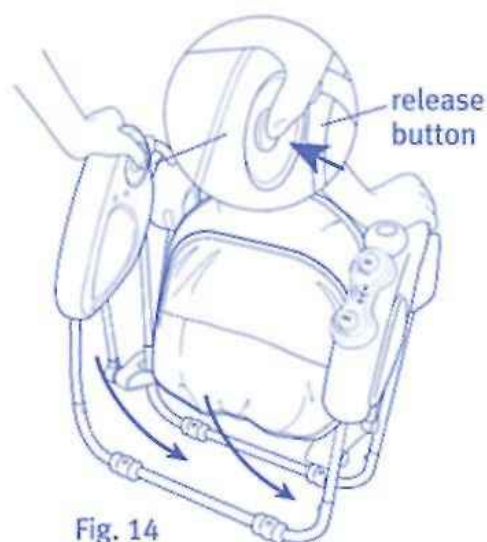

Fig. 14
(Fig. 14)
2. Press release buttons on inner sides of frame (see Fig.14).